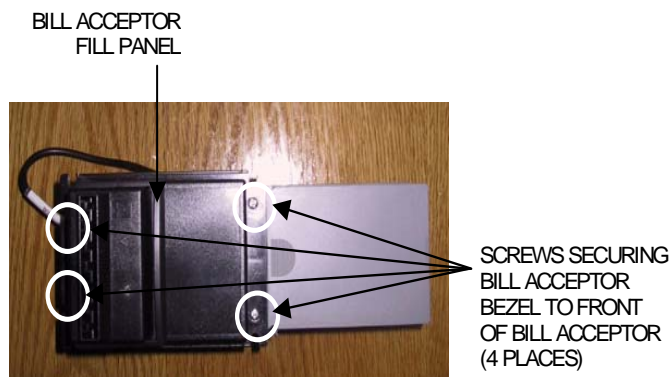
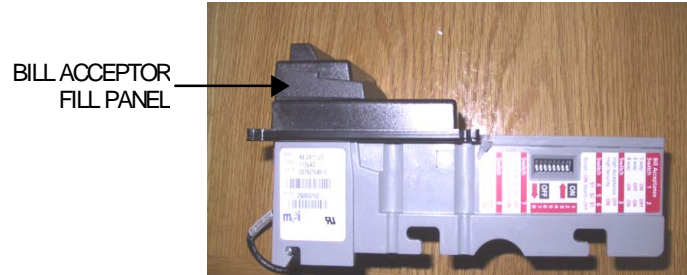

FIGURE 9 - FRONT VIEW OF BILLACCEPTOR
FIGURE 10 - SIDE VIEW OF BILL ACCEPTOR
11. Remove the bill acceptor fill panel from the bill acceptor bezel. Remove the 4 screws securing the bill acceptor bezel to the front of the bill acceptor. Screws are located above and beneath the acceptor. Remove the bezel and the metal mounting plate underneath. See Figures 9 and 10.
2. Line up the bezel's mounting plate on the front of the new bill acceptor; see Figure 11 for proper orientation. Line up the bezel on top of the mounting plate and secure to the bill acceptor with 4 screws (see Figure 9). Replace the bill acceptor fill panel on the bezel as shown in Figure 10.